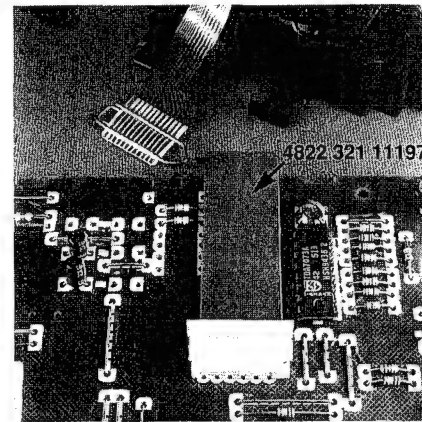

fig.2
3. Short-circuit printed board with **brass-sheet (4822 321 11197)** plugged into the flexfoil connector (fig.2)